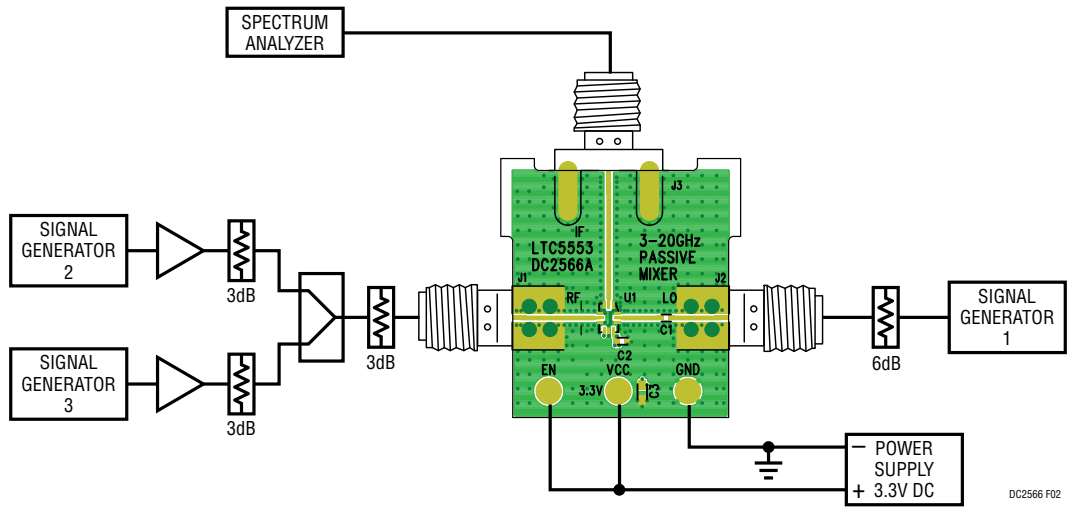

Figure 2. Test Setup for Downconverting Mixer Two-Tone Measurements
1. Connect all test equipment as shown in Figure 2.